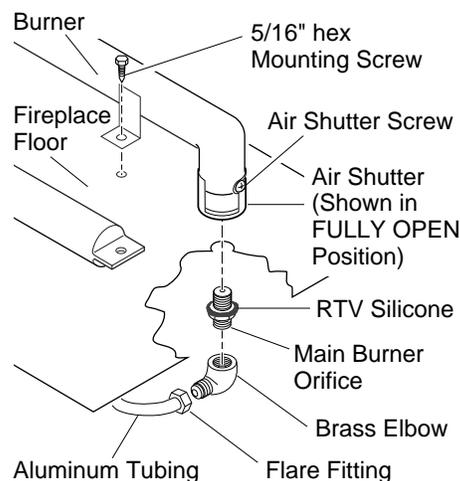

Figure 61 - Removing/Replacing Main Burner Orifice, Brass Elbow, and Aluminum Tubing
4. Disconnect flare fitting connected to the brass elbow inside the bottom control compartment area. Use a 3/4" open end wrench on the flare fitting (see Figure 61).
- Adjust air shutter setting on main burner. Loosen air shutter screw and rotate air shutter to FULLY OPEN position (see Figure 61, page 29). Tighten shutter screw. Place burner back into position. Attach with the two 5/16" hex mounting screws removed in step 5.
- Attach main burner orifice and brass elbow assembly to burner. Place main burner orifice into threaded end of burner and turn clockwise to tighten (see Figure 61, page 29). Align the brass elbow with the flare fitting on the aluminum tubing.
- Reconnect the aluminum tube flare fitting onto the brass elbow (see Figure 61, page 29).
- Reapply RTV silicone to seal area where orifice passes through the bottom combustion chamber (see Figure 61, page 29).